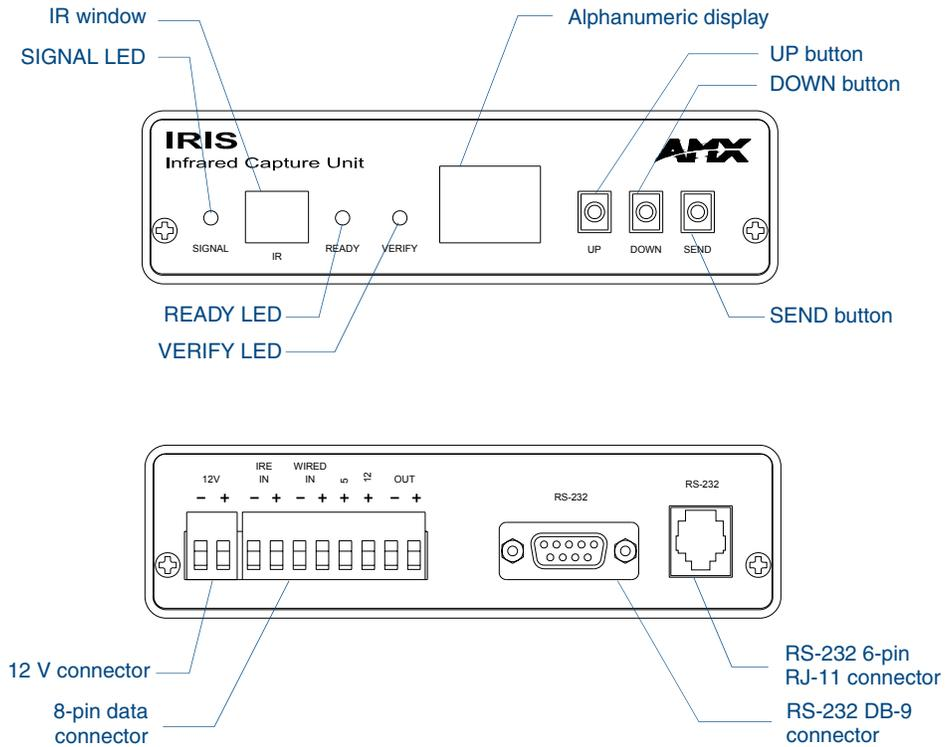

FIG. 1 IRIS front and rear views
The IRIS Infrared Capture Unit (**FG5448**) is a stand-alone, self contained unit used to capture infrared (IR) or wired-IR function signals from a hand-held remote controller. Hand controllers (HCs) are used to control a wide variety of audiovisual equipment that includes monitors, VCRs, TVs, and CD players. After you capture IR functions with the IRIS unit (FIG. 1 on page 2), the functions are sent to a PC running the IREdit software program. The IREdit software program creates HC function files that are downloaded to the AXCESS Central Controller.